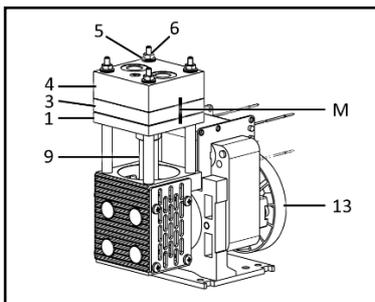
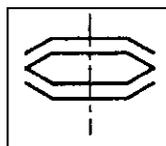

Fig. 4: N86.16
Fig. 6: Orientation of disk springs (5)
**i** The following item numbers refer to Fig. 4 - Fig. 6 unless specified otherwise.
For position see Fig. 6.